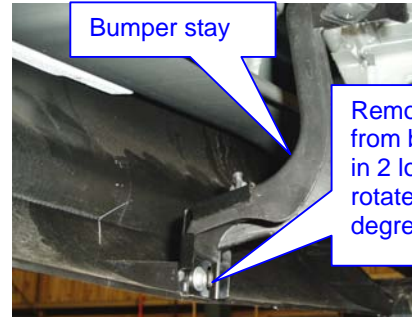

Fig 2
- Remove 1 x screw from each bumper stay on the underside of the bumper bar see fig 2.